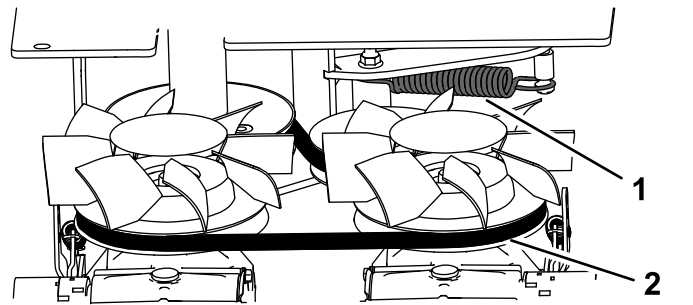

Figure 40
4. Inspect the belt (Figure 40). Replace the belt if it is worn; refer to Replacing the Drive Belt (page 31).
1. Rear bolt (2)
3. Side bolt (4)
6. Remove the extension spring (Figure 40).
11. Install the extension spring (Figure 40).